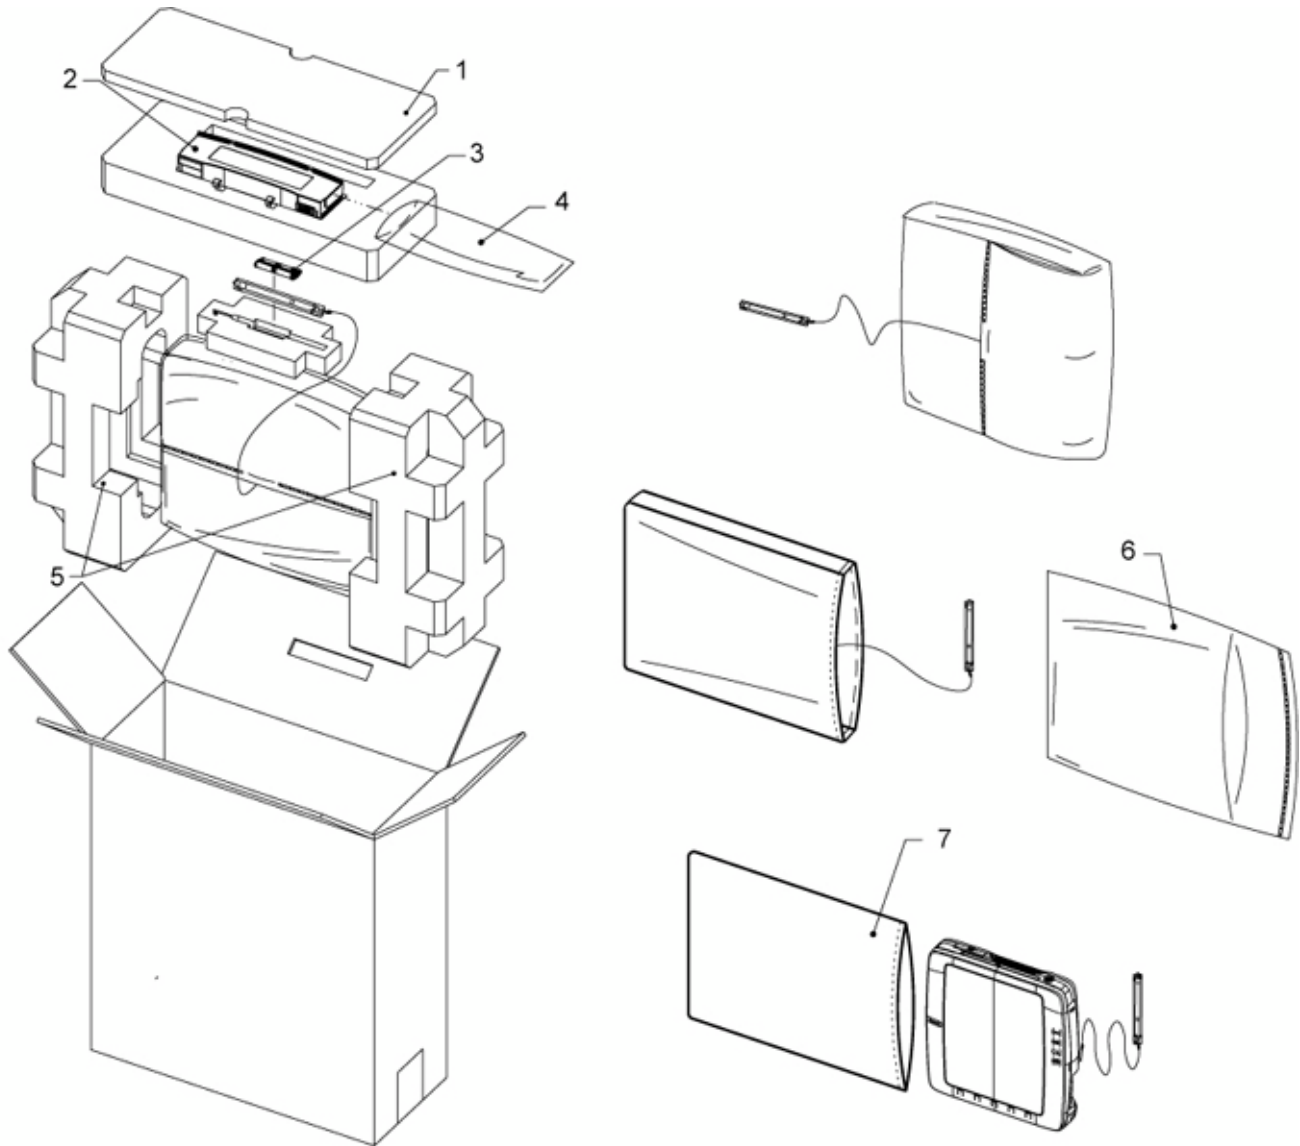

Figure 3-5 Taking out the system
- 5.) Open the Console Package, remove the pad. Take out stylus and battery package. Take out the console. Take off the protective bag and the PE bag. Refer to Figure 3-5 on page 3-6